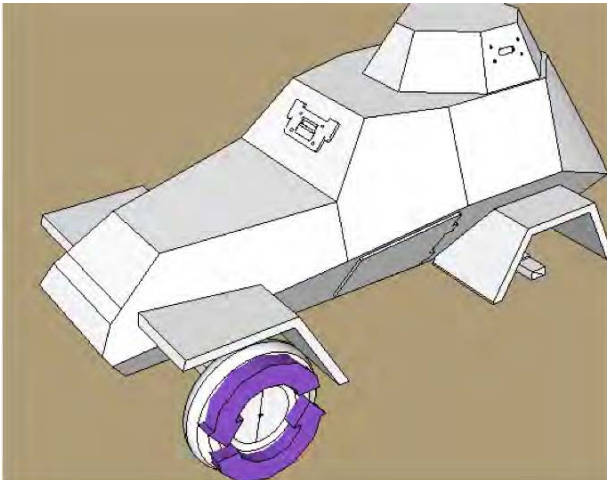

Figure 10-25. Attached the hinge to the wheel
4. Select the hinge, and click the center of the wheel to place the hinge, making sure that the circular rotation of the wheel is perpendicular to the wheel. Place the wheel next to one end of the axle, and then joint-connect the hinge with the body of the car. Then group the wheel with the hinge (Figure 10-25).